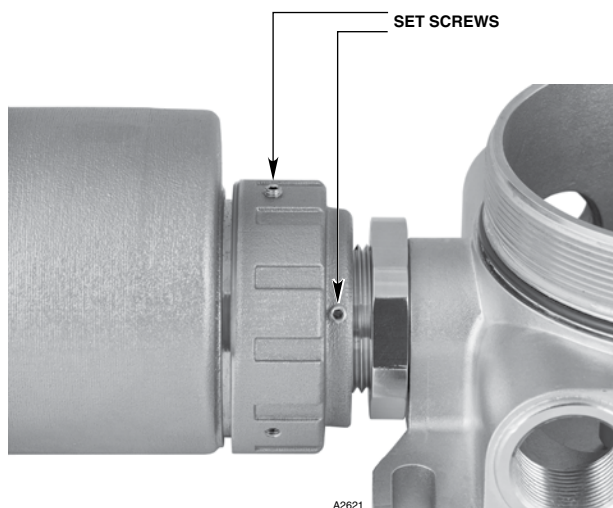

Figure 11—Set Screw Locations on Connector Ring
***There are a total of six set screw holes on the connector ring, three on the lower level and three on the upper level. Install at least one set screw on each level. See Figure 11.***